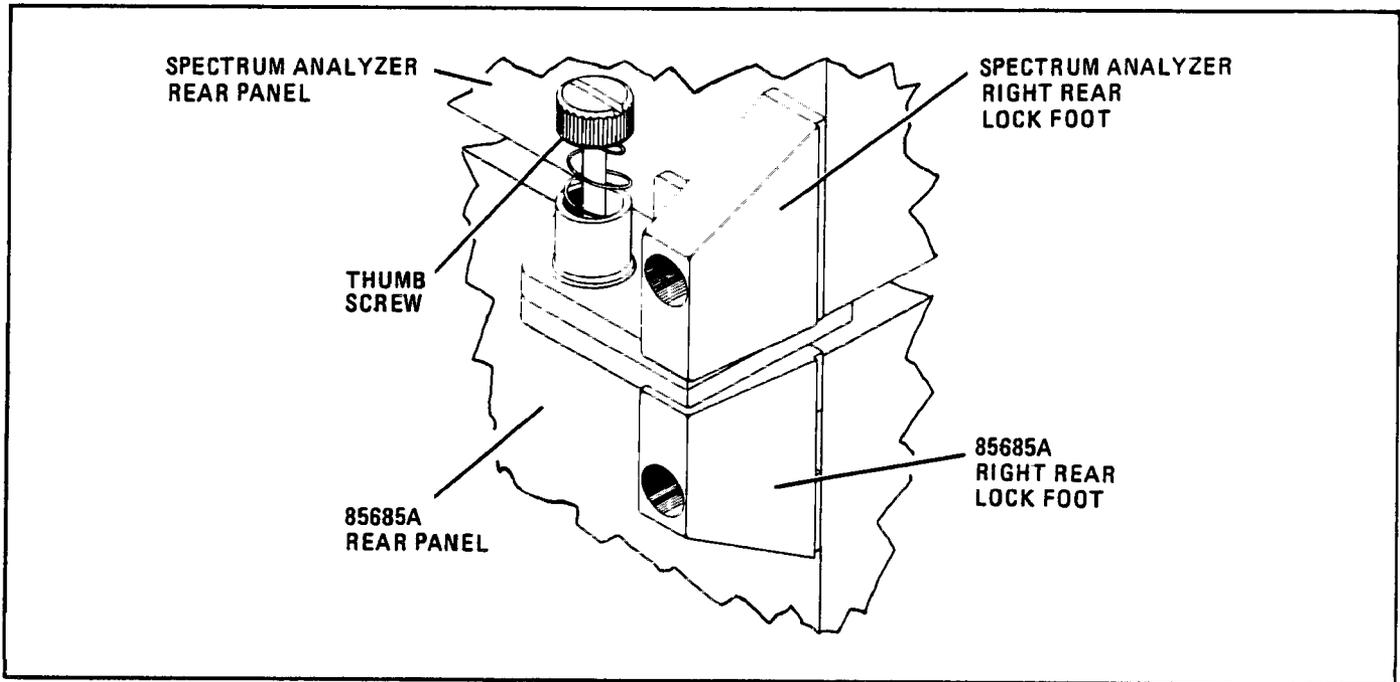

Figure 6. Securing Lock Feet
7. Secure the lock feet of the spectrum analyzer and the preselector together with the thumbscrews. See Figure 6.